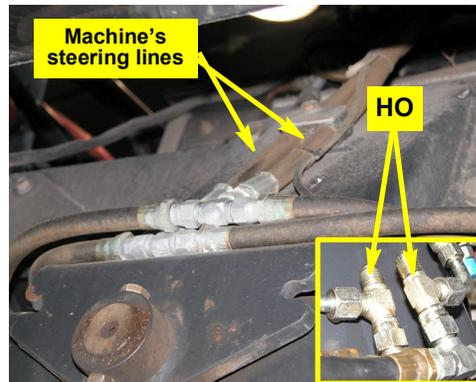

Figure 6a: Run-tees installed in steering lines
a. Locate the machine's steering lines in front of the machine under the hood (Figure 6a). Disconnect the steering lines from the stems of the existing run-tees and install run-tees **HO** (Figure 6a inset - you will connect hoses to the run-tees later).